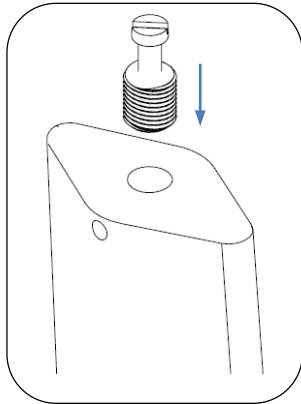

Fig. 3 – Install surf mt bolt to mark holes
3. Thread surface mount bolts into the two open locations, see Fig. 3.